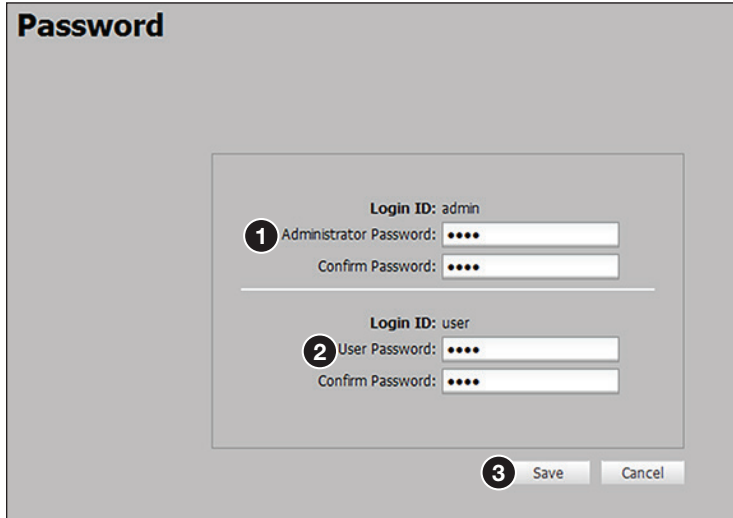

Figure 92. Password Page
To create or change an administrator password (see figure 92, ①):
3. Click **Save** (③).